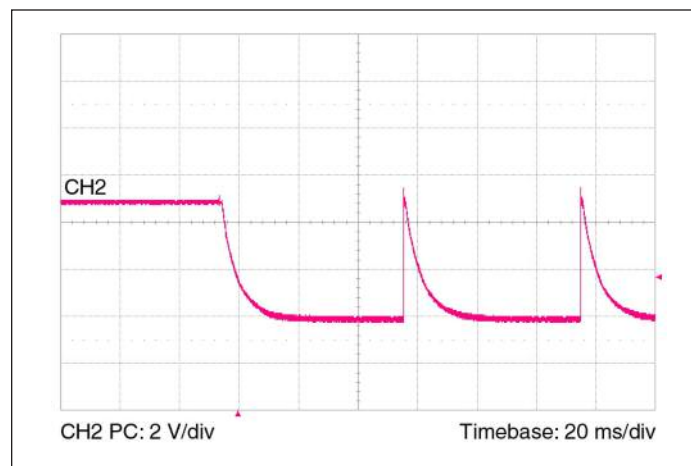

Figure 13 — PC signal during fault
**Alarm** – The module contains circuitry that monitors output overload, input overvoltage or undervoltage, and internal junction temperatures. In response to an abnormal condition in any of the monitored parameters, the PC port will toggle. Refer to Figure 13 for PC alarm characteristics.